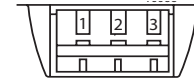

Figure 5. Input Terminals
- Wire gauges see fig. 5 and 6